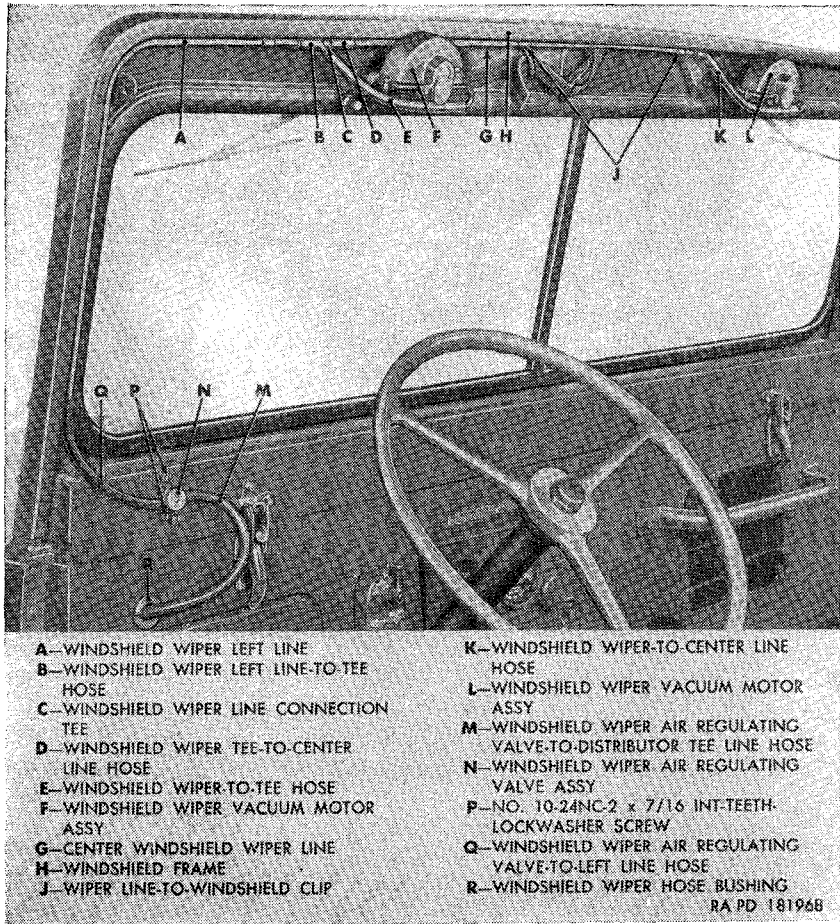

Figure 187. Windshield wiper vacuum motors—installed.
- (2) *Installation.* Position the windshield wiper adjustable arm on the serrated shaft of the paddle within the windshield wiper vacuum motor. Secure the arm to the shaft with one No. 10 blind nut. Install the windshield wiper blade assembly (a(2) above).
*Note.* Procedures in this paragraph apply to either windshield wiper vacuum motor assembly. The key letters noted in parentheses are in figure 187, except where otherwise indicated.
- (1) *Removal.* Remove the windshield wiper blade assembly (a(1) above). Remove the windshield wiper adjustable arm assembly (b(1) above). Pull the hose (windshield wiper-to-
*Note.* The key letters noted in parentheses are in figure 187, except where otherwise indicated.
- (1) *Left windshield wiper-to-tee and windshield wiper-to-center line hoses.*
- (a) *Removal.* Pull the left end of the windshield wiper-to-tee hose (E) from the windshield wiper line connection tee (C). Pull the right end of the hose from the fitting on the left windshield wiper vacuum motor assembly (F) and remove the hose from vehicle. Pull the left end of the windshield wiper-to-center line hose (K) from the center windshield wiper line (G). Pull the right end of the hose from the fitting on the right windshield wiper vacuum motor assembly (L) and remove the hose from the vehicle.
- (b) *Installation.* Slide one end of the left windshield wiper-to-tee hose (E) onto the windshield wiper line connection tee (C). Slide the other end of the hose onto the fitting on the left windshield wiper vacuum motor (F). Slide one end of the windshield wiper-to-center line hose (K) onto the center windshield wiper line (G). Slide the other
- end of the hose onto the fitting on the right windshield wiper vacuum motor (L).
- (2) *Center windshield wiper line, windshield wiper tee-to-center line hose, windshield wiper line connection, and windshield wiper left line-to-tee hose.*
- (a) *Removal.* Remove the two sheet metal screws securing the two wiper line-to-windshield clips (J). Pull the right end of the center windshield wiper line (G) out of the windshield wiper-to-center line hose (K). Pull the left end of the line out of the windshield wiper tee-to-center line hose (D). Pull the tee-to-center line hose off the windshield wiper line connection tee (C). Pull the left end of the left windshield wiper-to-tee hose (E) off the connection tee. Remove the connection tee by pulling it out of the windshield wiper left line-to-tee hose (B). Pull the hose off the windshield wiper left line (A).
- (b) *Installation.* Slide the windshield wiper left line-to-tee hose (B) onto the end of the windshield wiper left line (A). Insert the end of the windshield wiper line connection tee (C) into open end of the left line-to-tee hose. Slide the left windshield wiper-to-tee hose (E) onto the bottom arm of the connection tee. Slide the windshield wiper tee-to-center line hose (D) onto the upper arm of the connection tee. Insert one end of the center windshield wiper line (G) into the open end of the windshield wiper tee-to-center line hose (D). Insert the other end of the center windshield wiper line into the open end of the windshield wiper-to-center line hose. Secure the two wiper line-to-windshield clips (J) to the windshield frame with two No. 10 x ½ sheet metal screws.
- (3) *Left windshield wiper line.*
- (a) *Removal.* Remove the three sheet metal screws that secure the three wiper line-to-windshield clips (J) on the windshield wiper left line (A) to the windshield frame (H). Pull the upper end of the line out of the windshield wiper left line-to-tee hose (B). Pull the lower end of the line out of the windshield wiper air regulating valve-to-left line hose (Q) and remove the line.
- (b) *Installation.* Insert the lower end of the windshield wiper left line (A) into the windshield wiper air regulating valve-to-left line hose (Q). Insert the upper end of the line into the windshield wiper left line-to-tee hose (B). Secure the three wiper line-to-windshield clips (J) on the line to the windshield frame (H) with three No. 10 x ½ sheet metal screws.